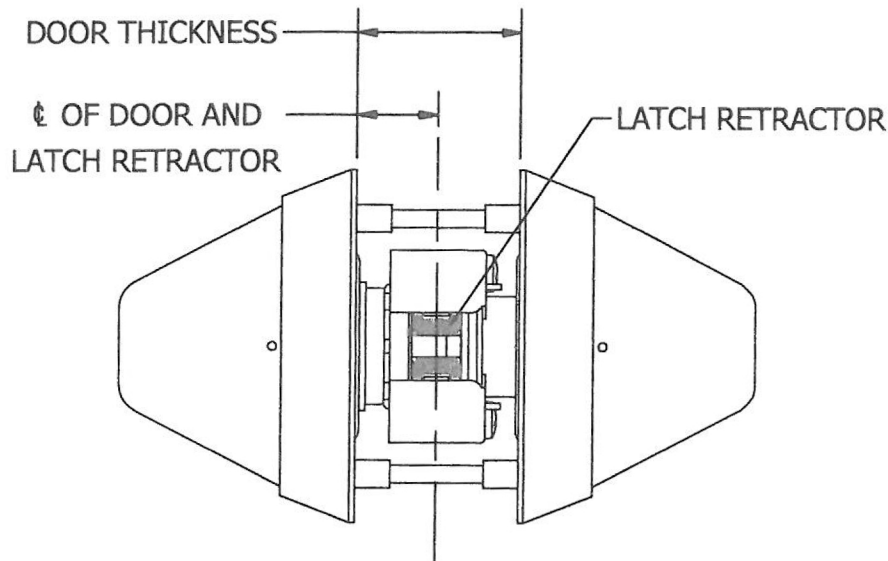

FIGURE 2
- 2.) The distance from the mounting surface of the threaded rose to the centerline of the latch retractor must be equal to 1/2 door thickness (see Figure 2).